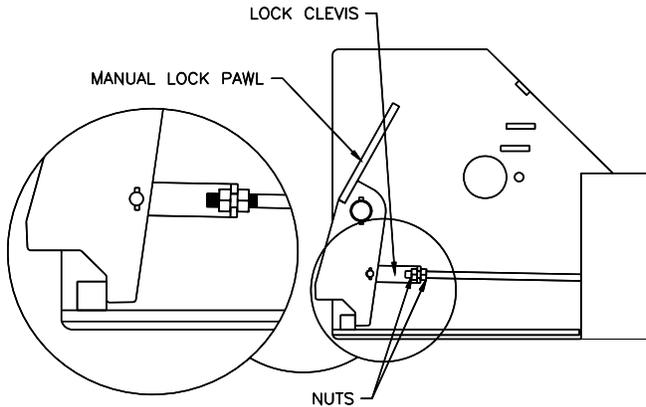

Fig 4 – Lock Clevis
- 4) Check the lock clevis to ensure it is secure and that the lock pawl is in the correct position as shown in **Fig 4**. Adjust the clevis if necessary.
- 17) With runways and cross beams loose, attach the mechanical lock bar to both cross beams with the supplied hardware. Tighten once cross beams are attached to the runways. **Verify the mechanical lock release moves freely and lock pawl return spring doesn't interfere with Lock Ladder.**(See Fig 4)